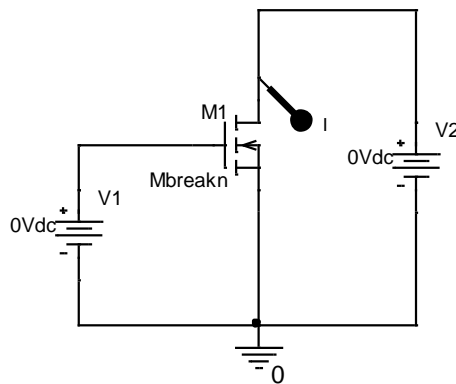

Figure 1: PSpice simulation
- Create the circuit shown in Figure 1 in PSpice. Use an MbreakN3 part for the FET.